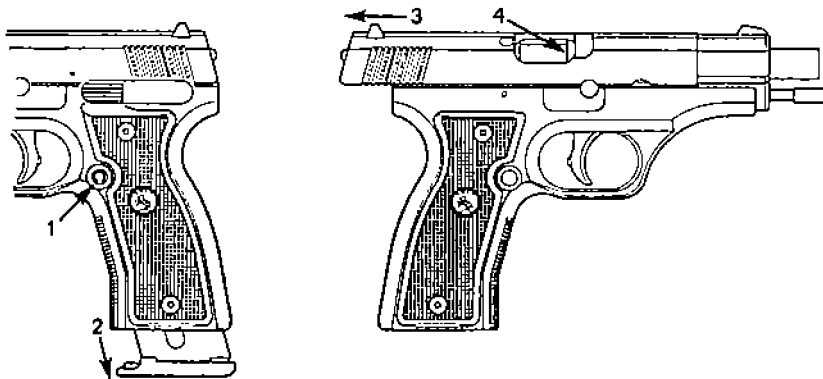

FIGURE 4—MAGAZINE PARTIALLY INSERTED
2. Remove magazine from pistol. See Figure 4. Place your hand under magazine to prevent it from falling. Press magazine catch (1) (located on left or right of pistol behind trigger guard) to drop the magazine out of the magazine well (2).
3. Hold pistol by stock with one hand. Keep other hand clear of ejection port and grasp serrated finger grips on both sides of slide. Pull slide back (3) far enough to LOOK IN CHAMBER TO ENSURE IT IS EMPTY (4); allow slide to return forward.